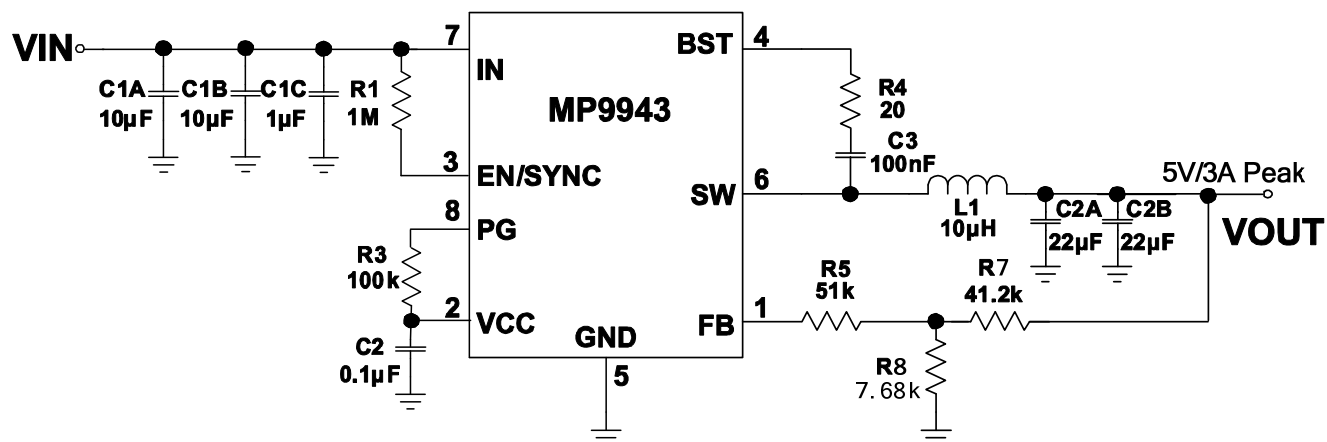

Figure 9: 12V_{IN}, 5V/3A Peak Output
- 8) The recommended layout is based on the Figure 9 Typical Application circuit on page 19.
The detailed application schematic is shown in Figure 9. The typical performance and circuit waveforms have been shown in the Typical Performance Characteristics section. For more device applications, please refer to the related Evaluation Board Datasheets.